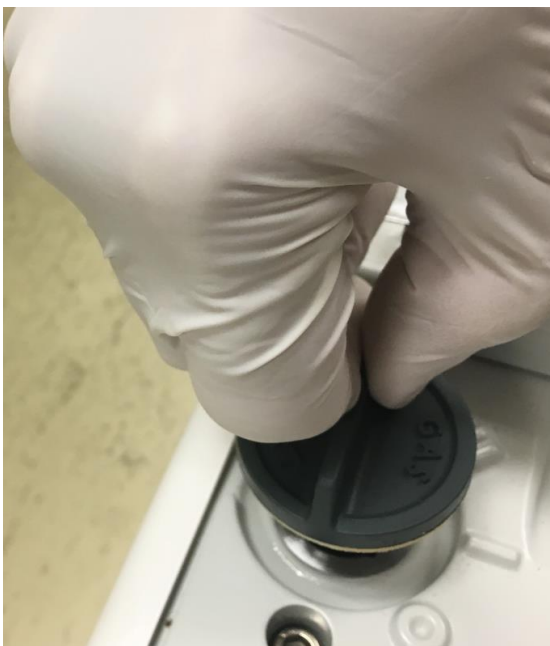

Figure 11: Removing the gas ballast knob
- 4) Remove the gas ballast knob from the top of the foreline pump by pushing down and turning it. See Figure 11.